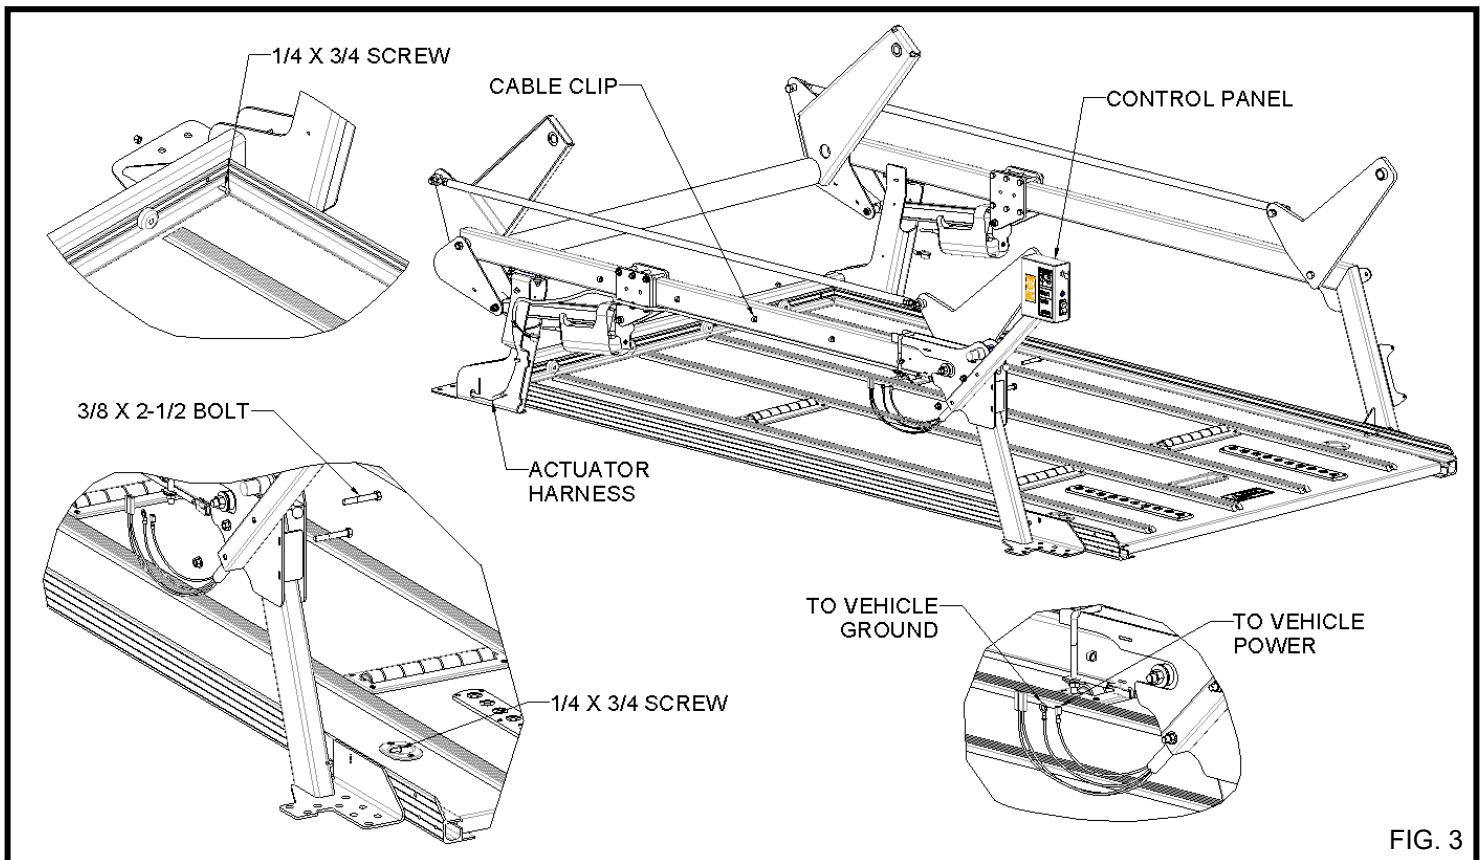

FIG. 3
6.10 Place the bottom deck in the vehicle (**FIG.3**) and secure it at the front and rear with (4) 1/4 X 3/4 socket button head screws and (4) lock nuts.
6.14 Attach the control panel ground wire to the vehicle ground (usually on the rear pillar). Connect the power wire to the control panel power wire, run it forward, and attach it to the vehicle's positive terminal. (See **FIG.3**)